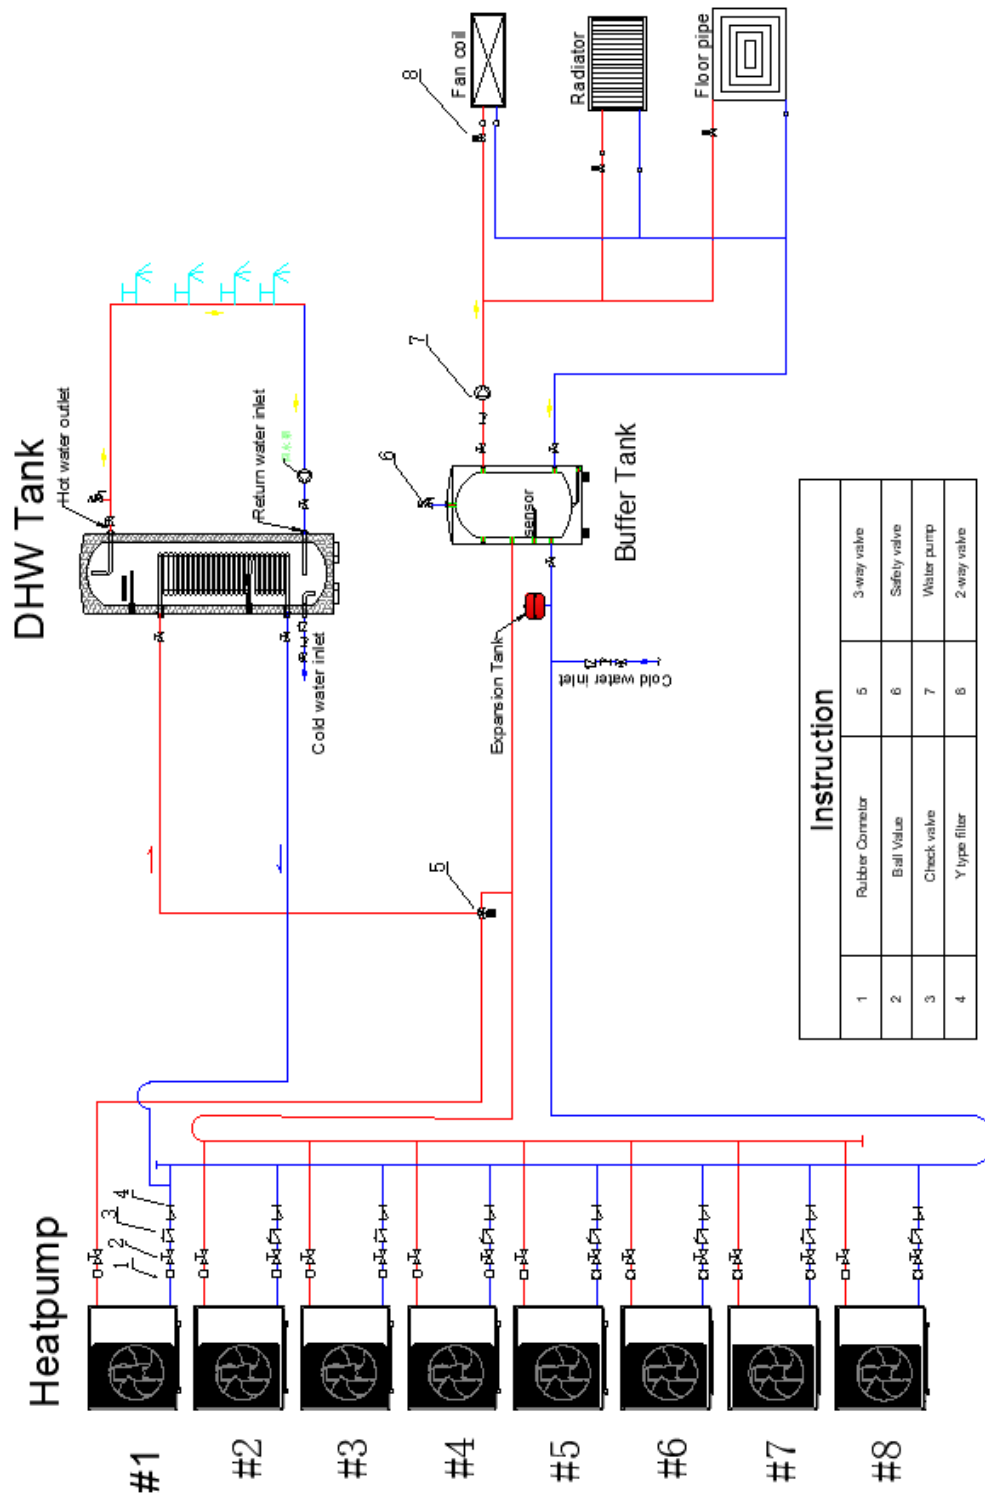

**Figure 3**
- 1) System installation diagram to see Figure 2, Figure 3.